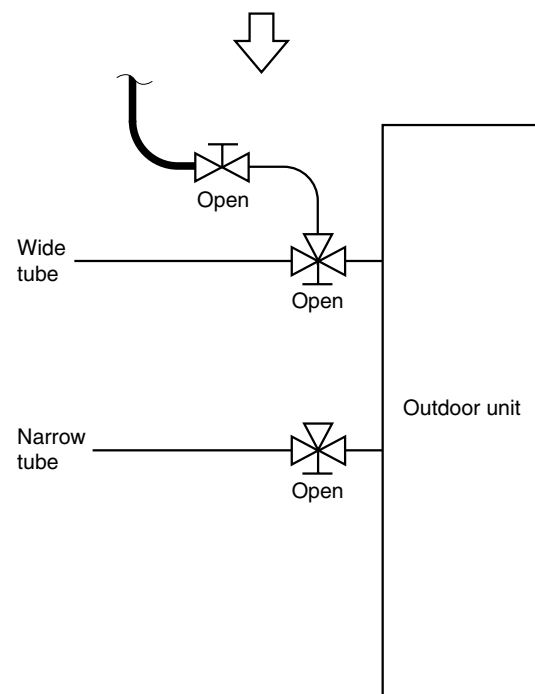

Fig. 8-6
- If the additional refrigerant charge amount cannot be charged at once, charge the remaining refrigerant in liquid form by using the wide tube service valve with the system in Cooling mode at the time of test run. (Fig. 8-6)